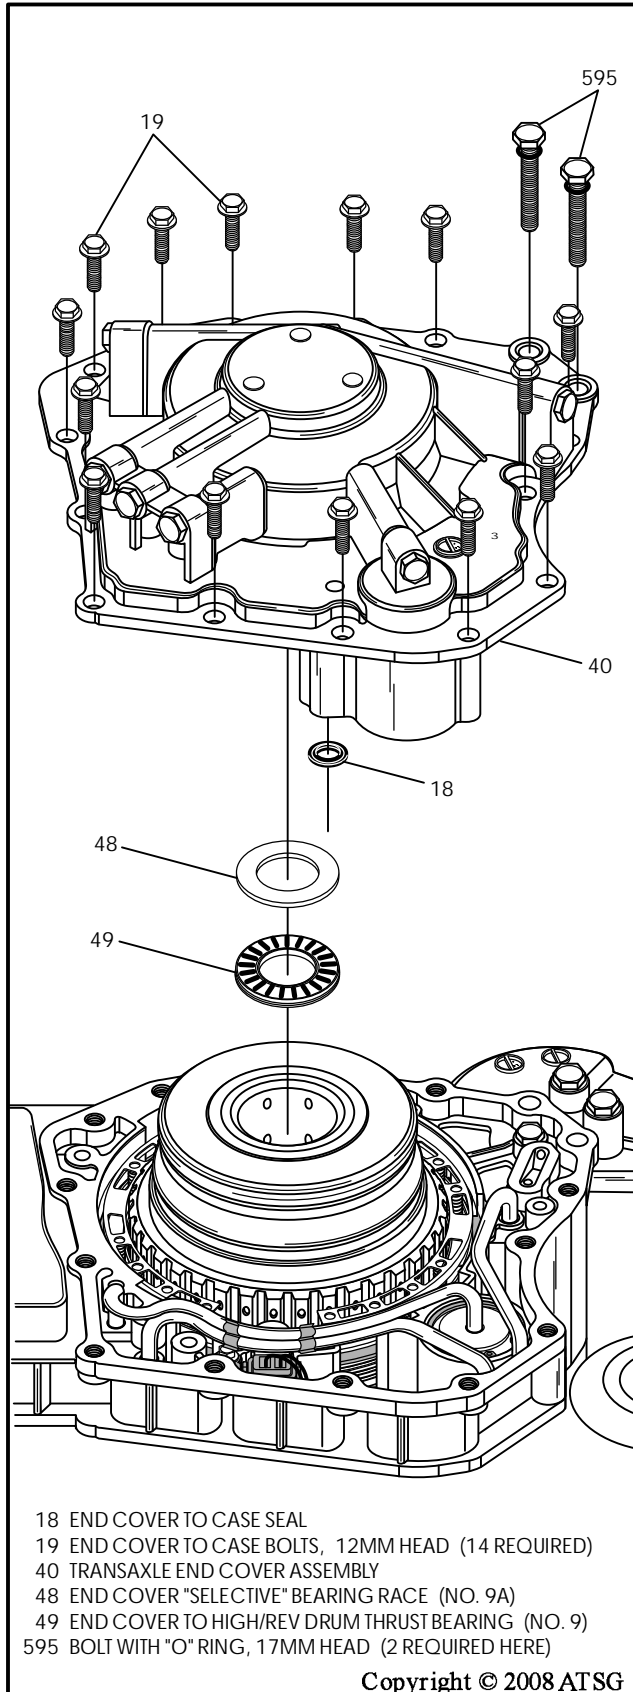

Figure 49
44. Remove the two 17mm head bolts (595), with the "O" rings, from the end cover, as shown in Figure 49.
46. Remove the 14 remaining 12mm head bolts retaining the end cover, as shown in Figure 49.
48. Remove and discard the end cover to case seal, as shown in Figure 49.
49. Remove the number 9 thrust bearing and the 9A "selective" thrust bearing race, as shown in Figure 49.